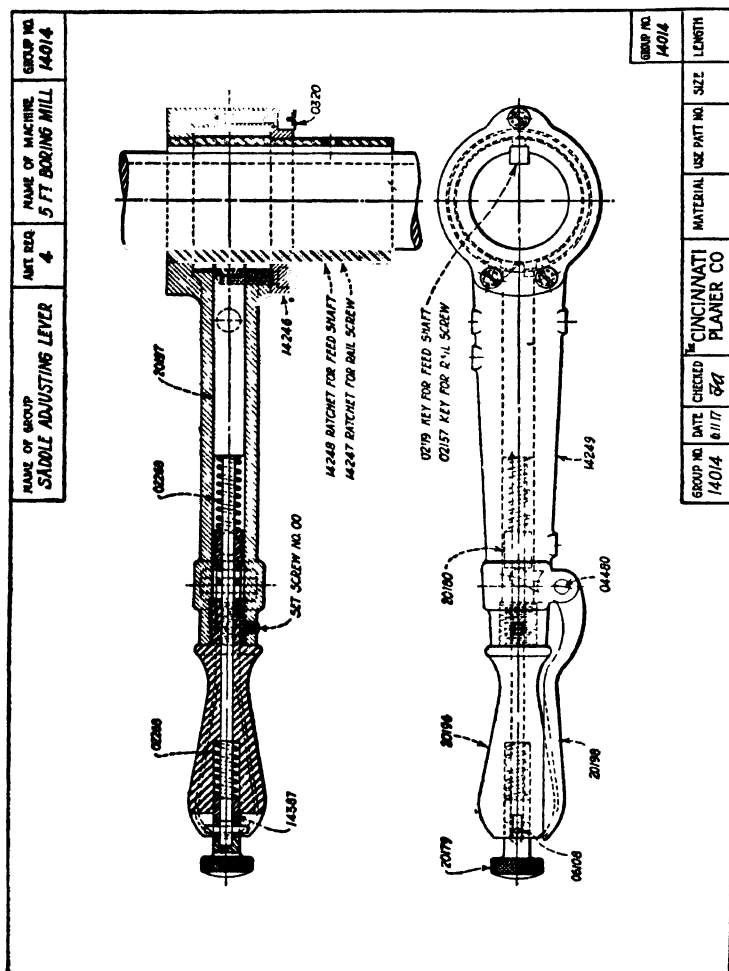

Fig. 46. Assembly Drawing of a Saddle Adjusting Lever
Saddle Adjusting Lever. An assembly drawing of a saddle adjusting lever which has been used on a boring mill is shown in Fig. 46. This assembly drawing consists of a front elevation and a sectional elevation taken on the center line of the front elevation. In other words, the front elevation is theoretically cut in half and the right half removed, thus showing on the sectional elevation the interior construction of the lever.
The shaft at the lower end of the lever is cross sectioned on the ends only, indicating that the actual length is longer. Shafts, pins, etc., are very seldom shown in section when used as they are in Fig. 46.
1. What are the numbers considered in Fig. 46?